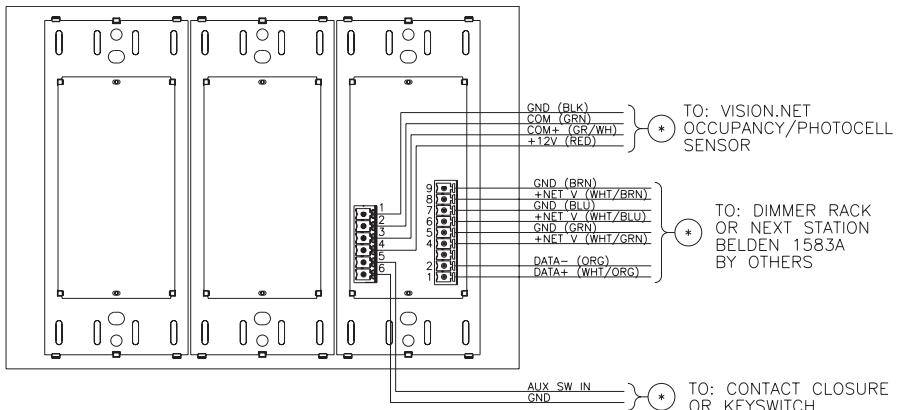

Figure 4: Station Wiring Examples
- Step 2. Connect to Vision.net network (refer to **Figure 4** on page 7).
Refer to **Figure 4** on page 7 for example wiring diagrams.
- Step 5. At station's back panel, connect Vision.net Network Cable to 9-pin connector. (Refer to **Figure 4** on next page.)